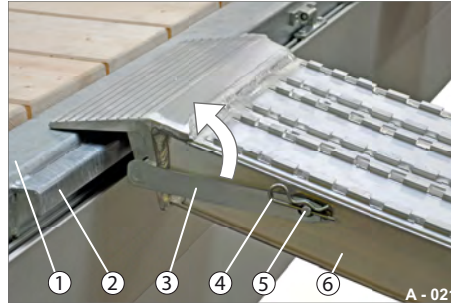

Fig. 26 Setting ramp planks down
- ▶ Pull the spring pin (Fig. 26/4) out of the retaining bolt (Fig. 26/5).
- ▶ Swing the locking lever (Fig. 26/3) upwards.
- ▶ Lift the ramp plank (Fig. 26/6) down from the loading platform edge and set it slowly and safely down on the ground - do not drop.